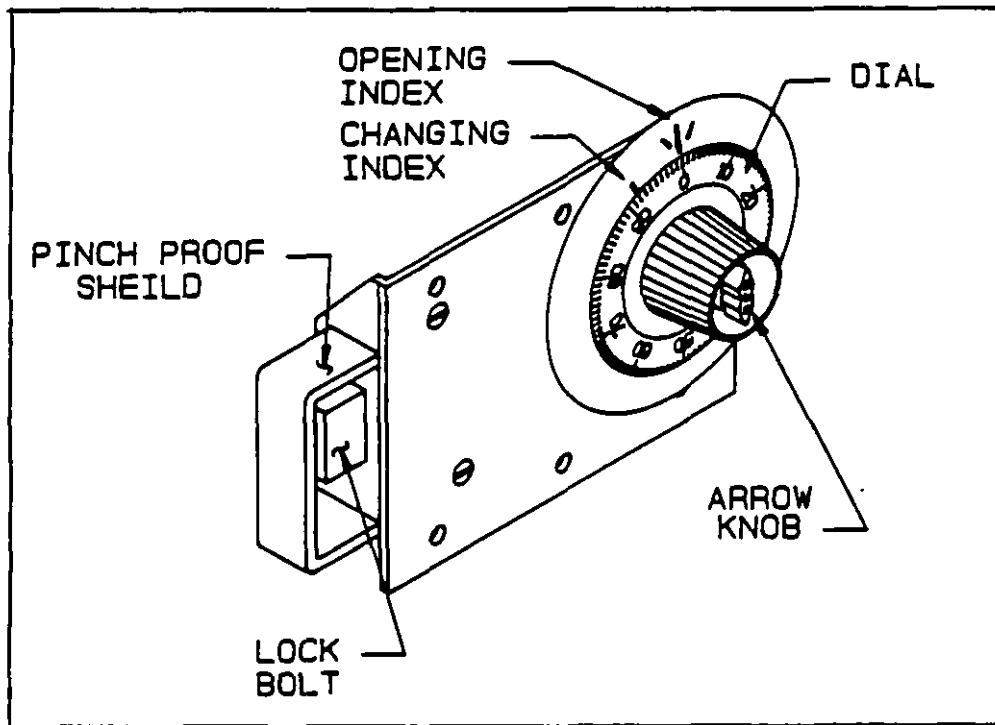
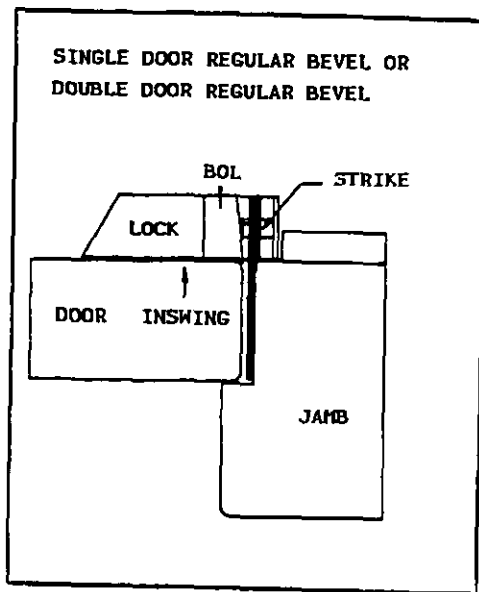

Figure 17
Figure 19
in the unlocked position. This is a standard feature on the newer 8470s. Existing locks can be retrofitted for this latch. The 8470 is illustrated in Figures 17 and 18. Strikes authorized for use with the Sargent & Greenleaf 8470 are illustrated in Figures 19 through 22.
3.2.5.4 Strike Installation. Strikes designed for use with the Sargent & Greenleaf 8470MP are illustrated in Figures 19 through 22.